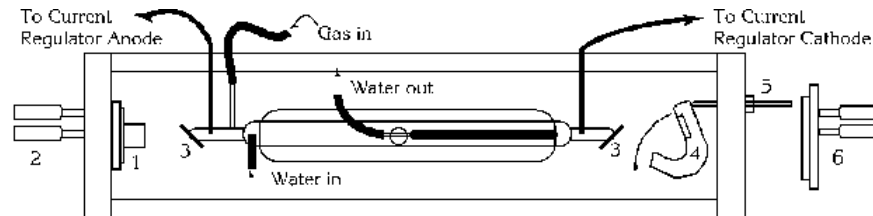
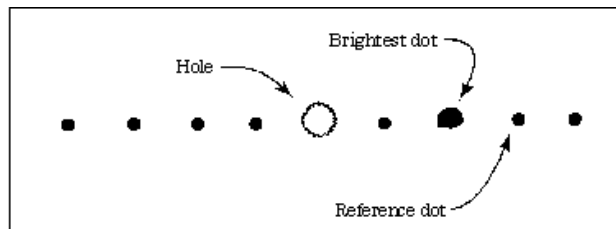

Figure 10: The Laser (top view)
Figure 15: HeNe interference pattern
Swing the grating into place taking care not to touch its expensive optical surface. The grating functions in place of the back-mirror and will allow you to align the laser for one lasing wavelength at a time. Once again you will use the Red alignment laser as an alignment tool. Rotate the mirror as before and set the laser up as before and turn it on. Place a card with a small hole in it between the back Brewster window and the grating inside the large plastic safety box. When the Red beam passes through the hole and hits the grating, you can see the reflected diffraction pattern on the card (see Figure 15). The row of dots should be horizontal, and as you move the grating, different dots should fall on top of the hole. Note that the dots are a little higher than the original laser beam. This is because the Grating is angled up a very small amount. You will need to adjust the output coupler mirror to compensate for this alignment. You should only have to adjust the grating by rotating its mount around the vertical axis (see Figure 10, #5); the other orientations are fixed by what you do with the HeNe. If you cannot make the HeNe interference pattern horizontal, it is possible that the grating is not aligned along its other axes and you should see the staff for assistance. It does not help to turn the small allen-head screw that rotates the grating within its mount, don't do it. (THIS WILL CAUSE A LOSS OF TIME FOR YOU)
Align the grating so that the reflected *reference-dot* (see Figure 15) returns to the output port of the HeNe laser. This grating angle is very close to the proper alignment for the P(20) line. You will have to adjust the grating slightly later since the diffraction pattern of the HeNe is only a measuring tool and this reference dot does not coincide exactly with the CO₂ P(20) line. Use a rubber band to hold the grating in position against the micrometer.